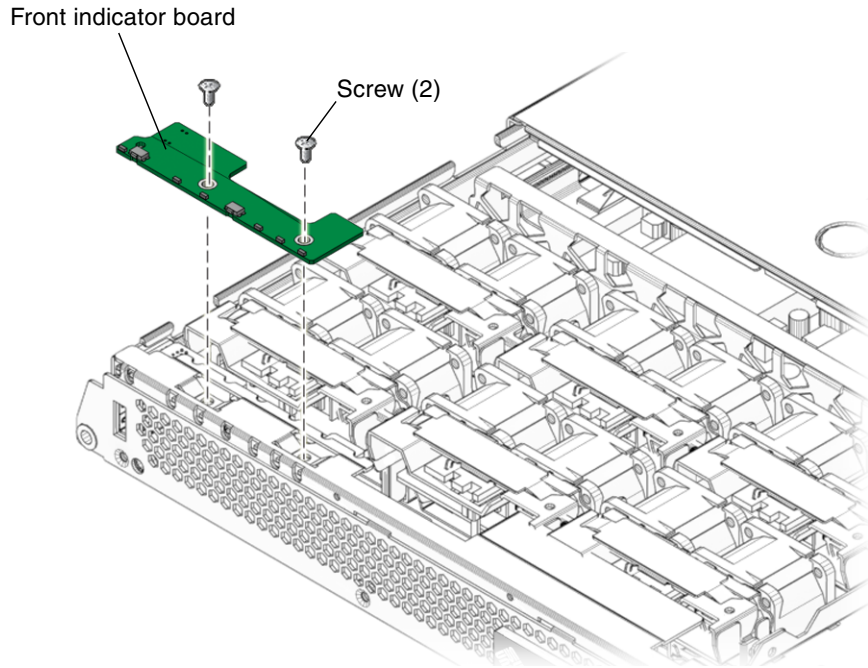

FIGURE 3-28 Removing the Front Indicator Board
5. Remove the two screws that secure the front indicator board to the chassis (FIGURE 3-28).
2. Install the front indicator board in the chassis (FIGURE 3-28).